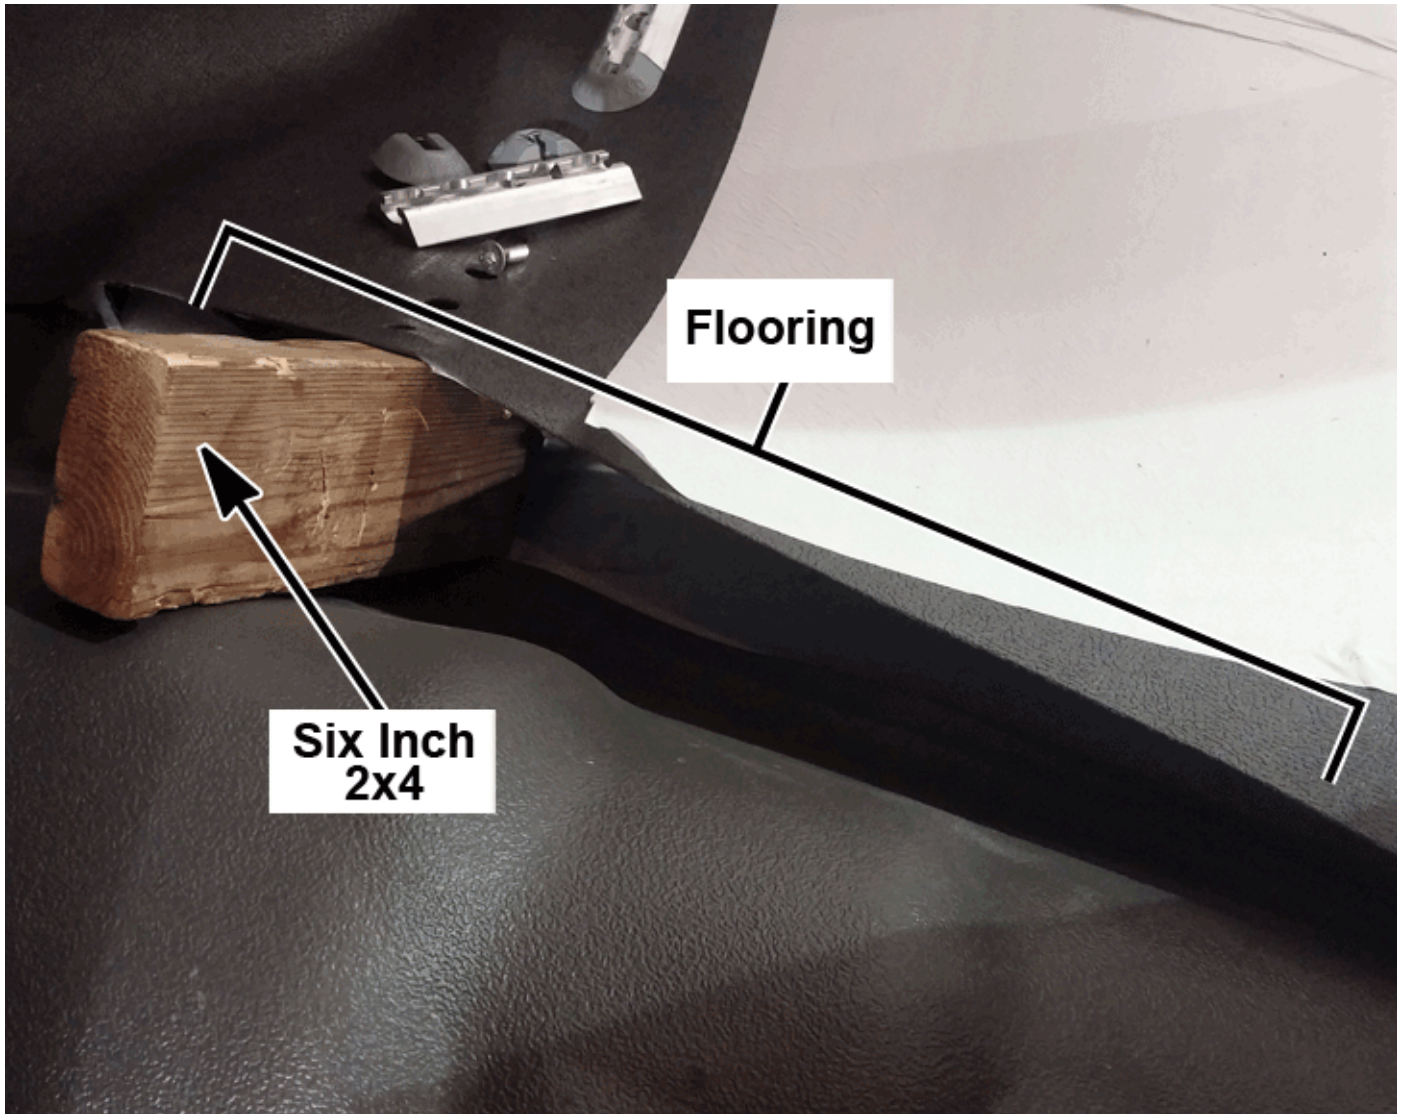

Figure 2: Raise the Flooring
2. Raise the passenger side flooring just enough to insert a six inch piece of 2X4 (See Figure 2).